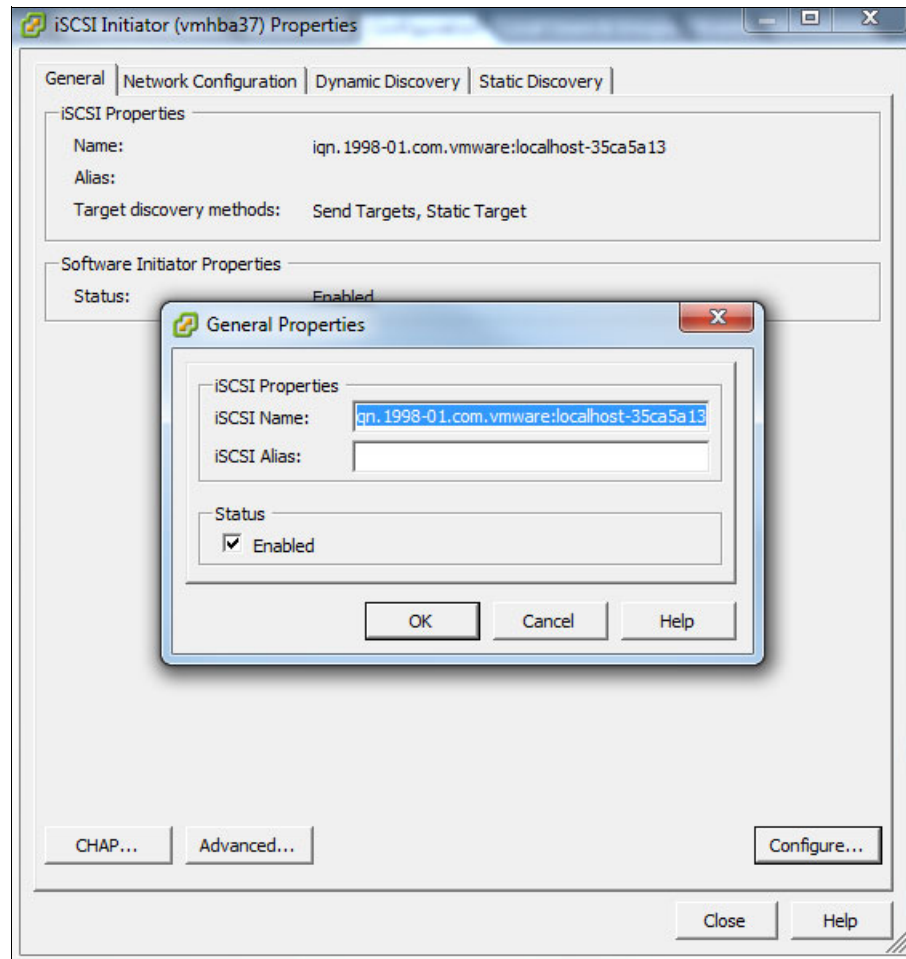

Figure 7-34 General Properties
3. On the General tab, click **Configure** and enter the IQN into the iSCSI name box (Figure 7-34).